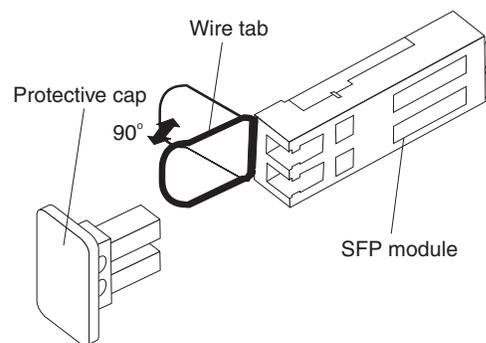

Figure 26. Unlocking the SFP module latch - wire variety
- For SFP modules containing wire tabs, unlock the SFP module latch by pulling the wire latch outward 90°, as shown in Figure 26.